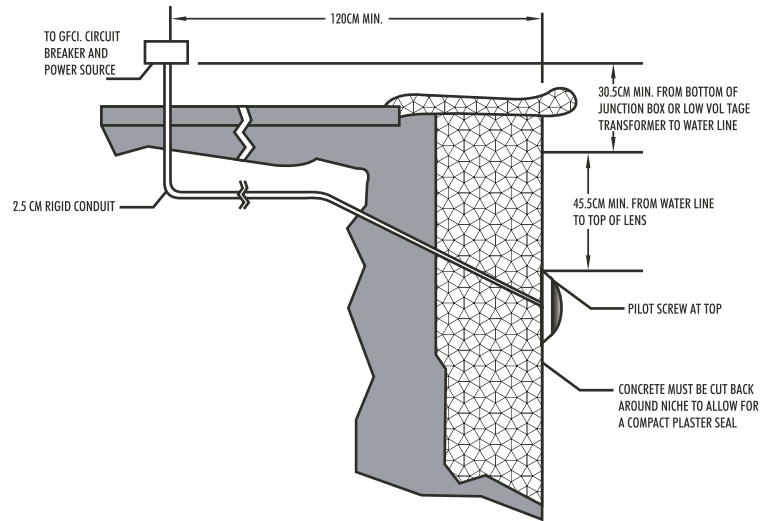

Figure 1.
A. Preparatory steps which must be completed by the electrician before light is installed, see Figure 1.
- b. The junction box, or the low voltage transformer for 12 volt models, is located at least 30.5CM above water level and at least 120CM from the edge of the pool, see Figure 1.
- d. The mounting bracket must be properly installed so that the top edge of the Underwater Light's lens is at least 45.5CM below the surface of the water in the pool. Top of lens corresponds to center of center of Plastic Mounting Hub, see Figure 1.